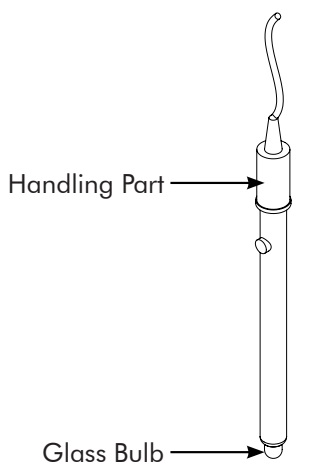

Fig. 26.1
4. Connect Condenser water inlet & Condenser water outlet with silicone tubing from the unit (Ref. fig. 26.1).